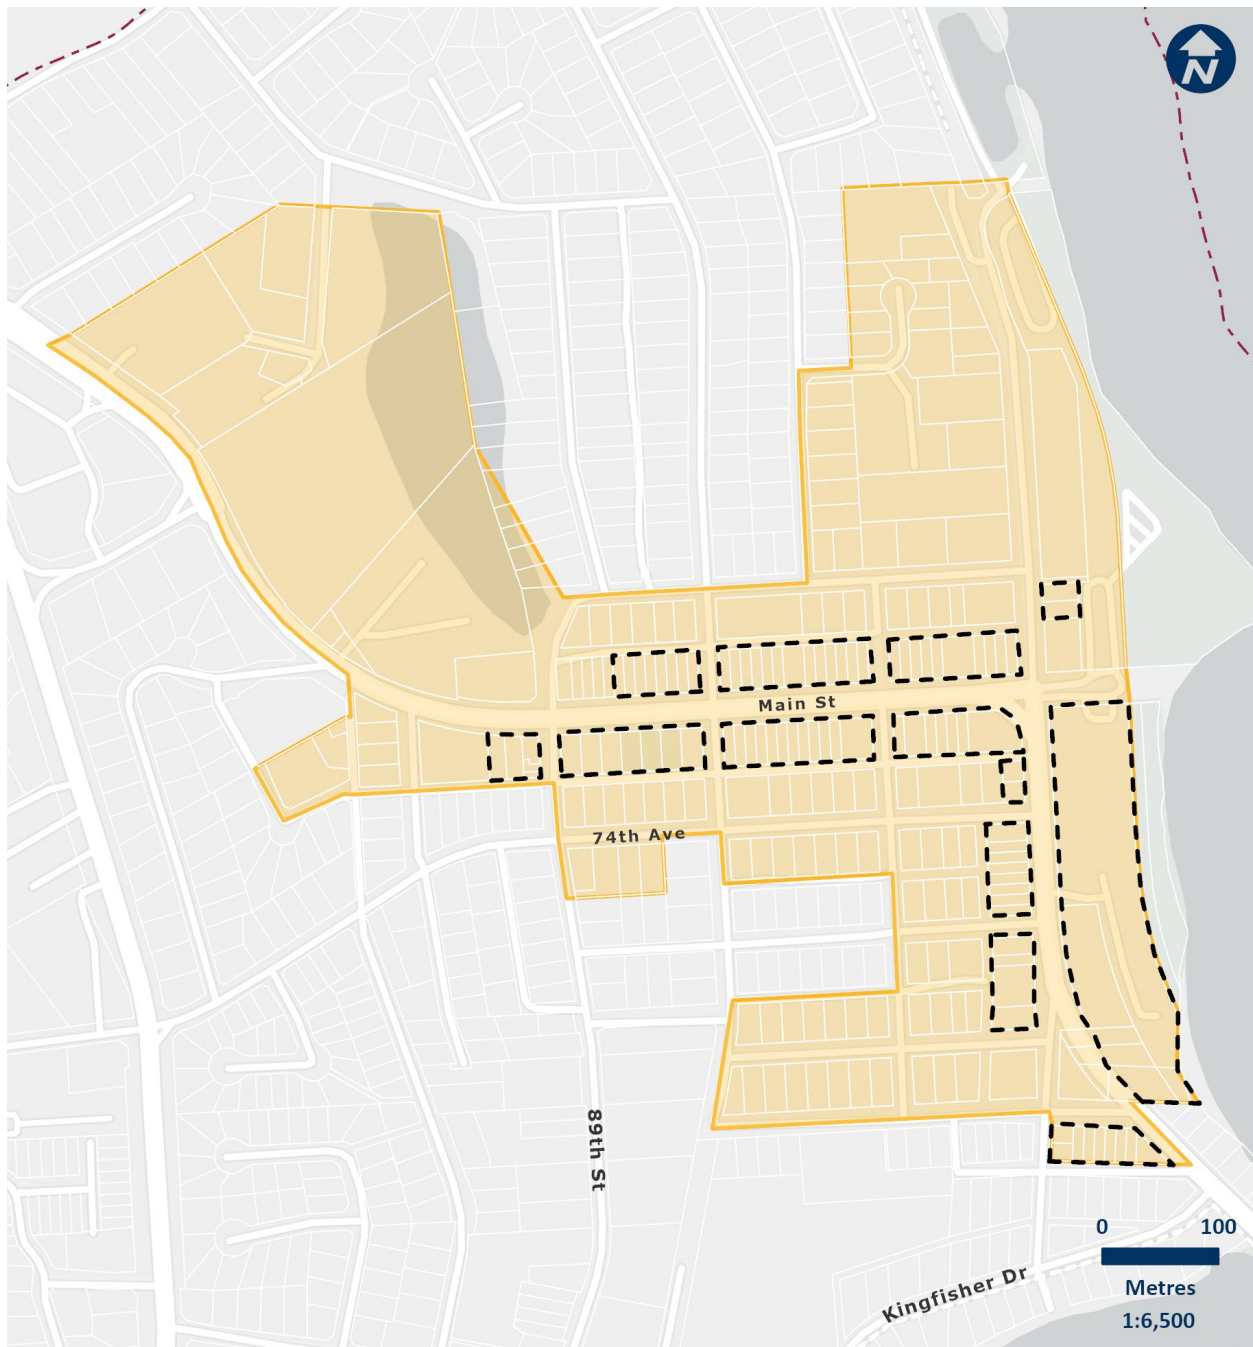

Figure 10.6 – Downtown Parking Area
- .1 Despite Table 10.2 (Required Off-Street Vehicle Parking), the minimum number of required off-street vehicle parking spaces within the areas shown on Figure 10.6 (Downtown Parking Area) shall be as follows: